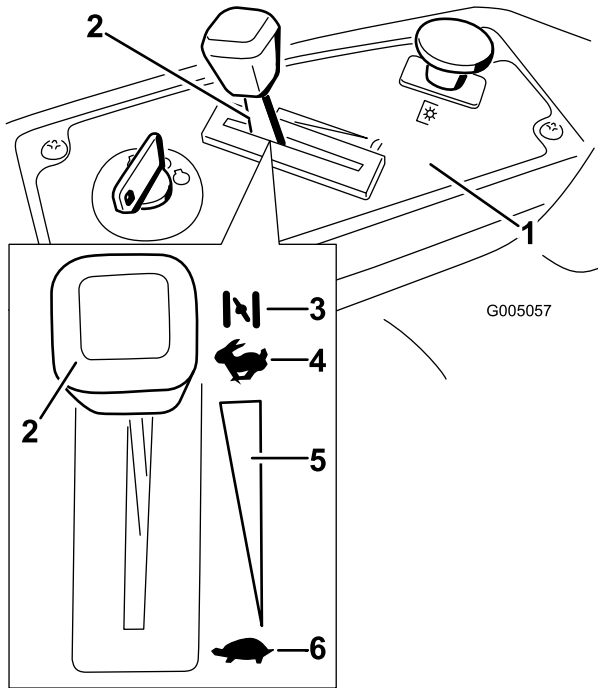

Figure 11
3. Move the throttle lever to Choke before starting a cold engine (Figure 11).
5. After the engine starts, move the throttle lever to Fast (Figure 11). If the engine stalls or hesitates, move the throttle lever back to Choke for a few seconds. Repeat this as required.
3. Turn the ignition key to Off (Figure 11).